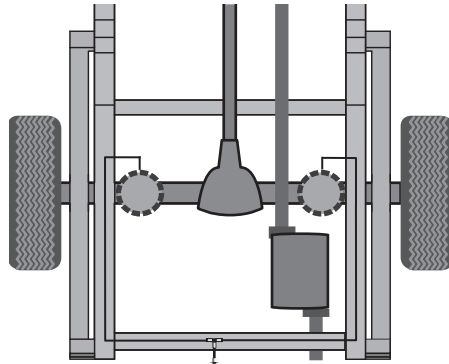
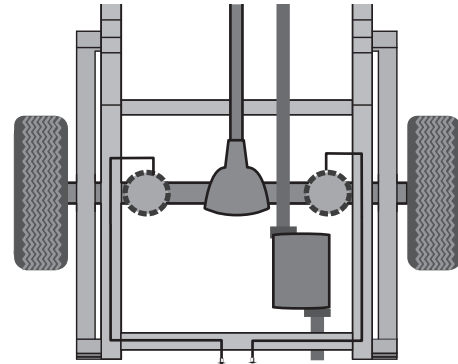

fig. 10
fig. 11
A single-path air line installation is recommended for vehicles that typically have even weight distribution (Fig. 10). If weight in the vehicle varies from side to side and unequal pressures are needed to level the load, use a dual-path installation. For dual-path air line installations, eliminate the tee fitting (K) and route separate air lines for both air springs (Fig. 11).